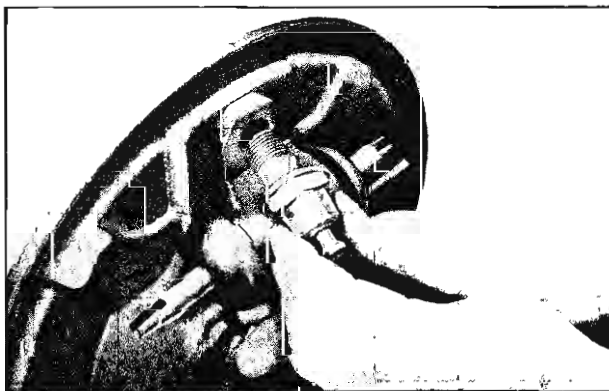
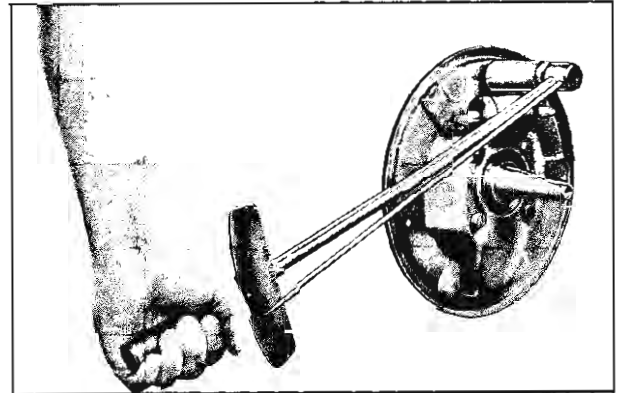

Fig. 26—Installing Front Anchor Pin
Fig. 27—Applying Correct Torque on Anchor Pin
1. Mount front wheel cylinders to the brake flange plate by installing the threaded anchor pin (fig. 26) through the wheel cylinder housing and tighten to 65 foot pounds with a torque wrench (fig. 27).